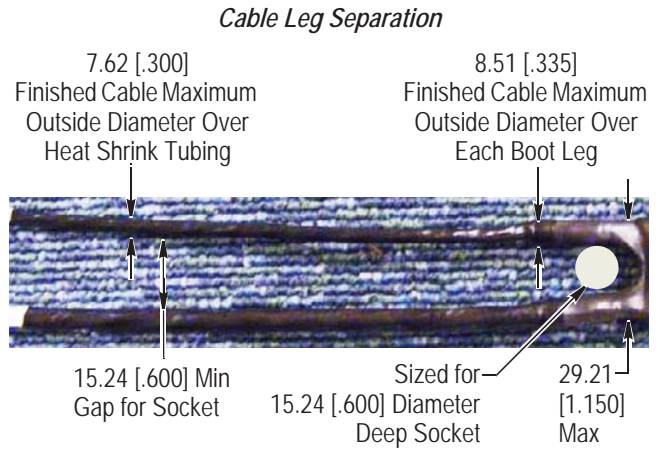

Figure 17
- n. Place a 15.24-mm [.600-in.] diameter dowel pin or rod between the shrink boot legs during cooling to maintain the required socket clearance (refer to Figure 17).
14. Check the cable leg separation to make sure it meets the dimensions given in Figure 17.